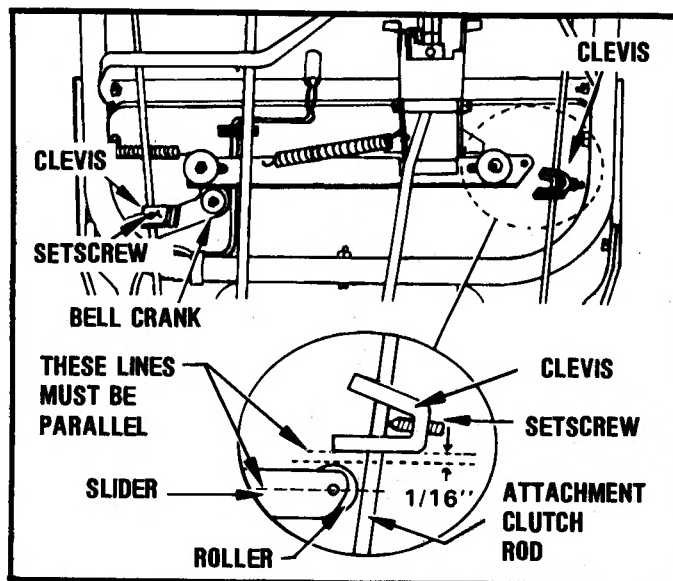

FIGURE 10
CLUTCH HANDLE INTERLOCK — FIGURE 10
2. Release Traction Clutch Lever ("UP" position). Pull bell crank down until slider is at end of slot. See Figure 10. Secure clevis to traction clutch rod at this position with setscrew.